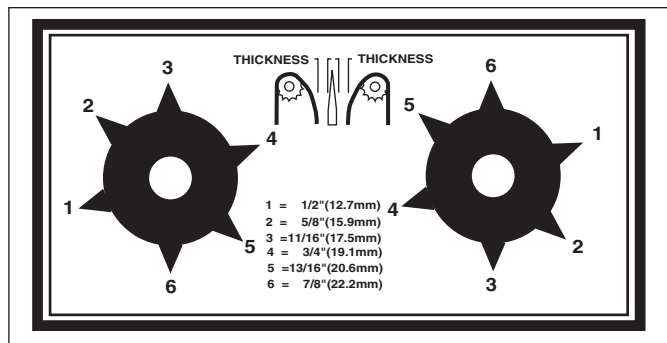

Figure 6. Bun Thickness Adjustment Controls
1. Set the Bun Thickness Adjustment Control knobs to the desired settings (Figure 6). The recommended setting is 6.
Bun Thickness Adjustment Control knobs set incorrectly.	Measure bun thickness and set bun adjustment controls correctly (Fig. 6, page 9).